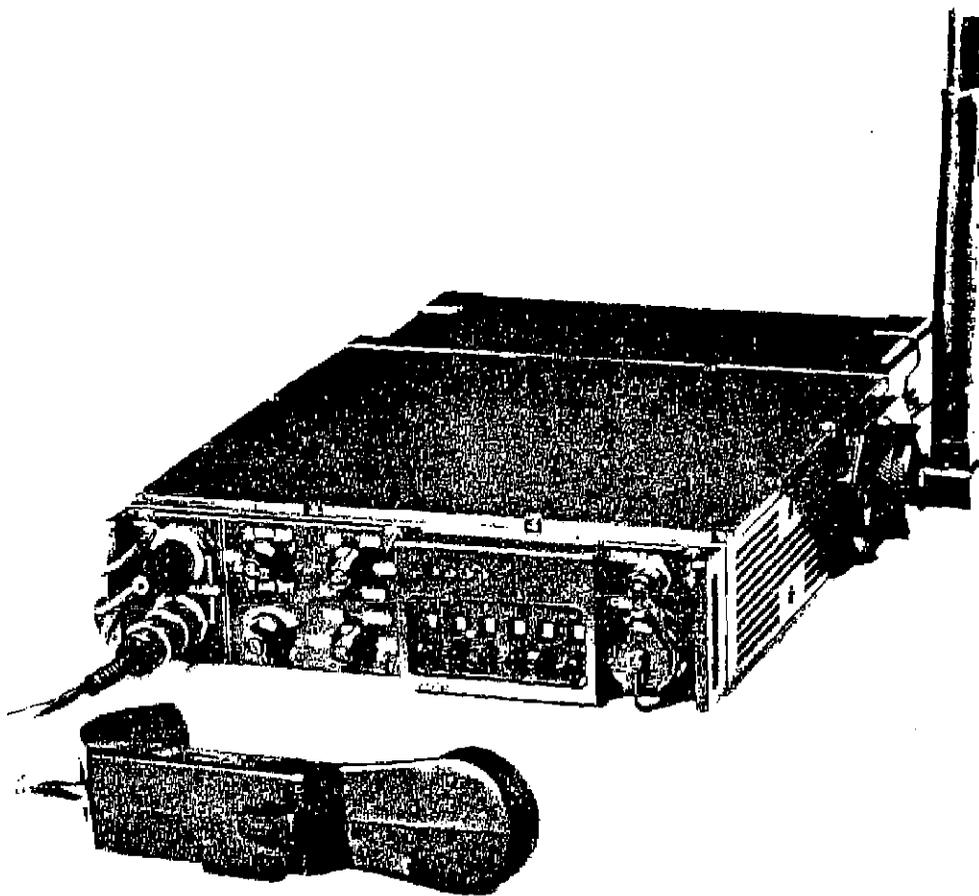

Figure 1-1. Radio Set PRC-174, basic configuration
a. Radio Set PRC-174 (Figure 1-1) provides stable two-way communication at short and medium range on any one of 280,000 frequencies spaced at 100-Hz intervals in the 2-MHz to 30-MHz high frequency (HF) band. The radio set is self-contained for operation as a man-pack, vehicular or fixed radio station. .
b. The radio set provides voice, narrow-band data and narrow-band or wideband continuous wave telegraph (NCW, WCW) communications. Both single-side band (SSB) and amplitude modulation (AM) are available for voice and data operation. SSB is used for Cw operation. In SSB either the upper or the lower side-band (USB, LSB) may be utilized. (See Table 1-1.)